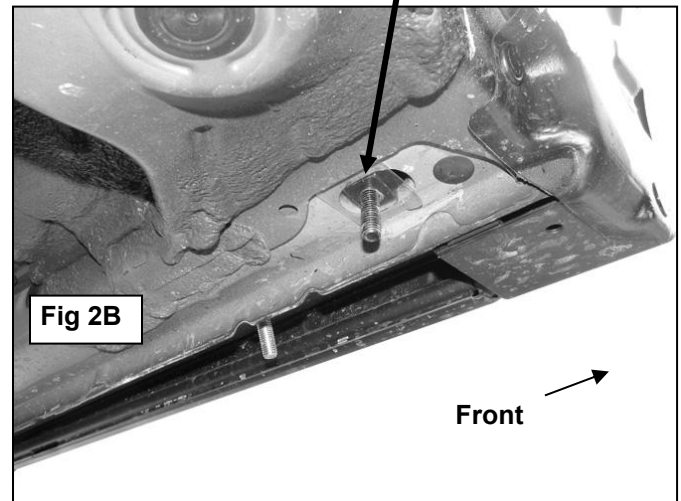

Fig 2B
- Starting on the driver side of the vehicle, locate and remove the factory oval rubber plug, **(Figure 1)**. Remove the (2) round rubber plugs in the bottom of the floor panel located closest to the front tire opening. Select (1) T-Bolt and (1) 10mm Plastic Retainer, **(Figure 2A)**. Insert the T-Bolt up into the oval hole and rotate it 90-degrees so that the block is across the oval hole. Thread the Plastic Retainer onto the T-Bolt and tight against the floor panel, **(Figure 2B)**. **NOTE:** The Plastic Retainer is designed to help hold the T-Bolt in place during Bracket installation.